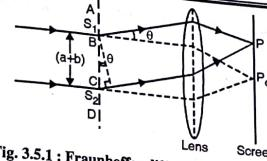

Fig. 3.5.1 : Fraunhofer diffraction at double slit
- Consider a beam of monochromatic light of wavelength  $\lambda$  incident normally on two narrow slits AB and CD as shown in Fig. 3.5.1. Let 'a' be the width of each slit and 'b' be the width of opaque space BC separating the two slits such that  $a$  and  $b$  are comparable.
- From Fig. 3.5.1, the path difference between the waves from  $S_1$  and  $S_2$  at P is,